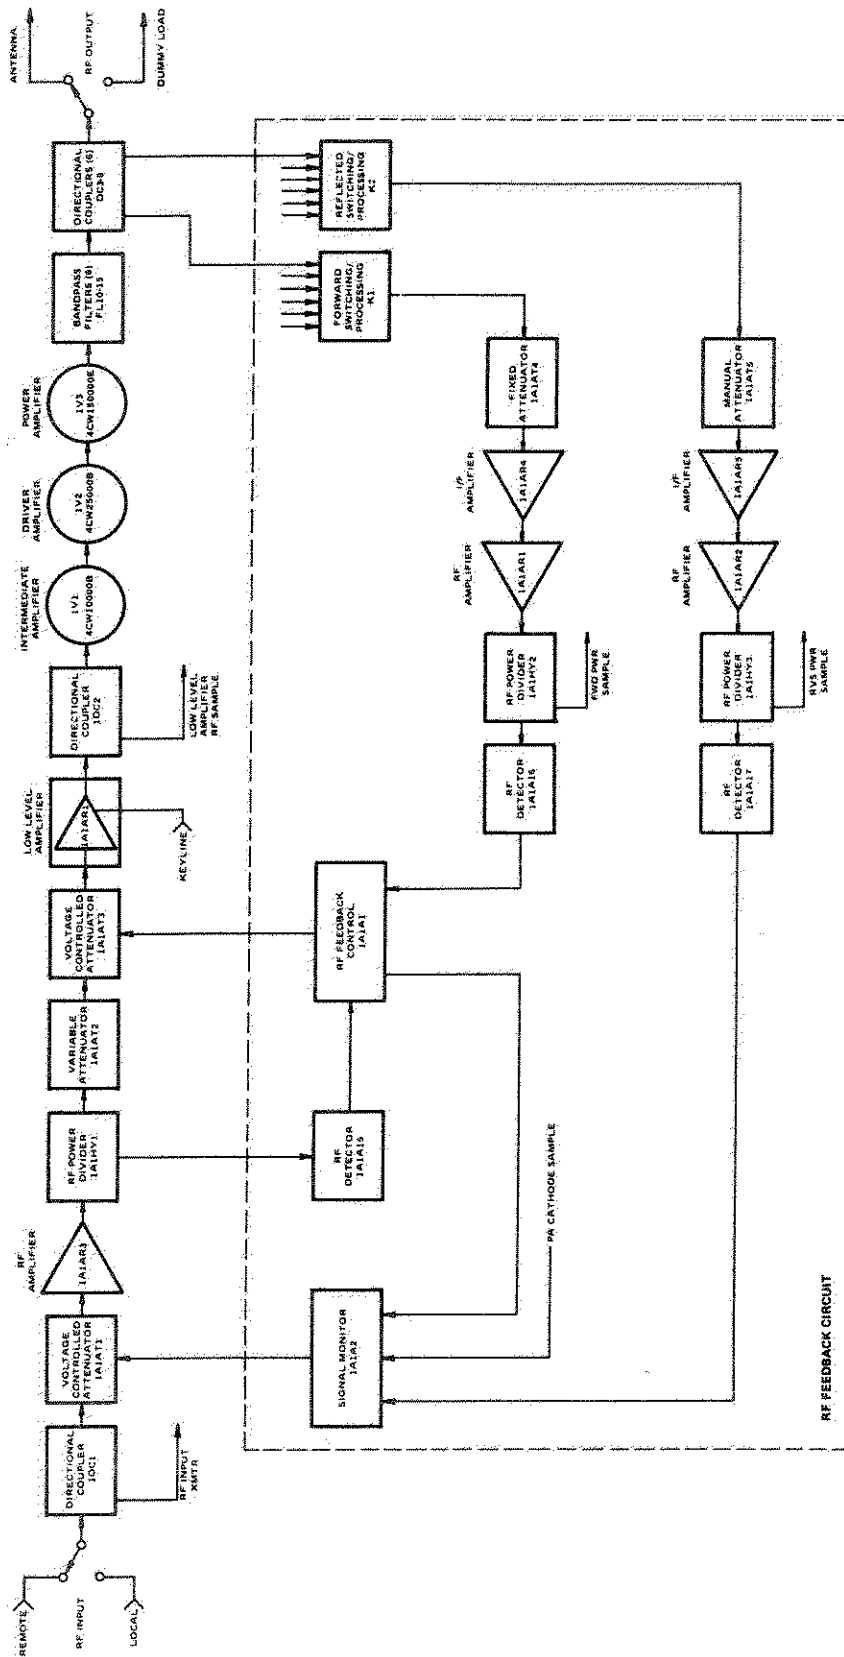
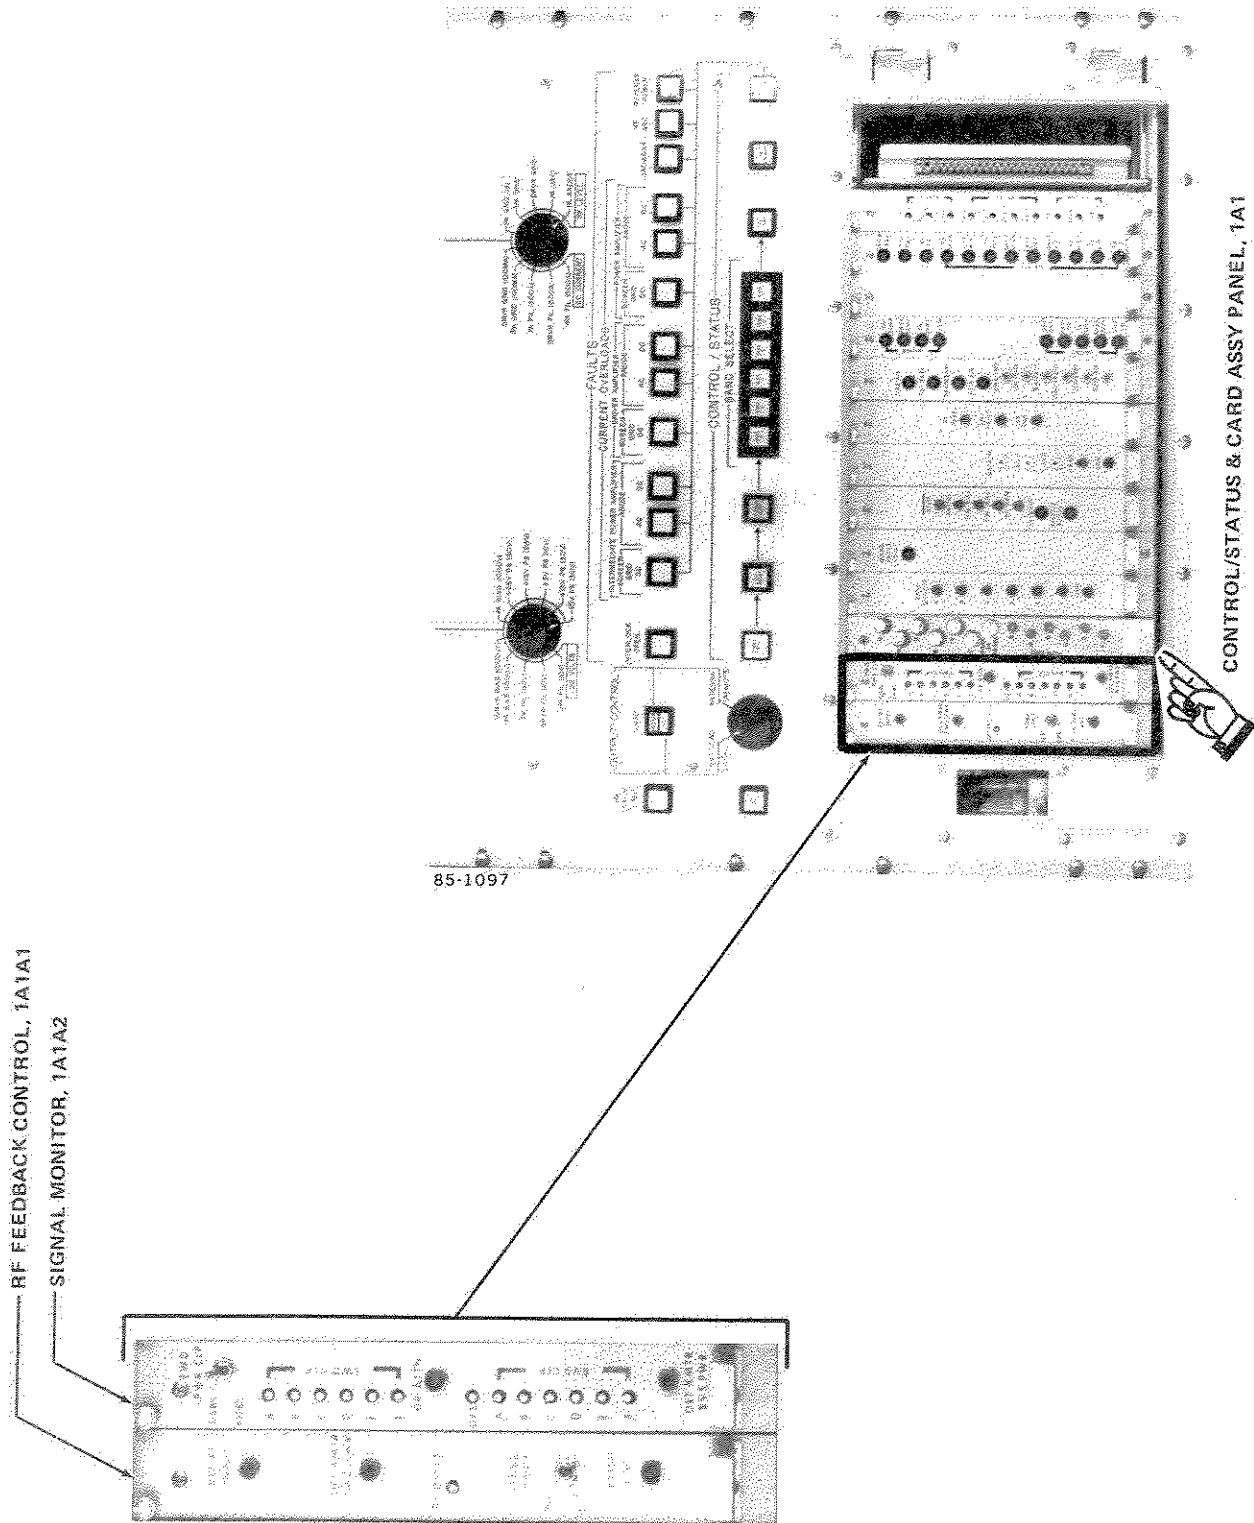

Figure 5-3. RF Signal Path and Feedback
Figure 5-4. RF Feedback and Signal Monitor Cards
Preamplifier circuitry consists of the amplitude correction circuit and the amplitude feedback/constant gain circuit. Figure 5-3 shows the transmitter RF path, including feedback origin and routing. Figure 5-4 shows RF Feedback Control 1A1A1 and Signal Monitor 1A1A2 circuit cards and their locations in the CONTROL/STATUS panel. RF input signals to the transmitter come from local or remote sources. A local signal is inserted at the RF INPUT SIGNAL SOURCE jack 1A25W5J1 on the RF SIGNAL MONITORS panel. A remote signal from the TXG transmit beamformer is applied to connector 1J1 on top of cabinet 1. RF INPUT SELECTOR switch 1A25S2 controls relay 1K5, which routes either a local or remote RF signal to the preamplifier input. Directional Coupler 1DC1 monitors the RF input signal and provides a sample at the RF INPUT XMTR jack 1A25W4J1 on the RF SIGNAL MONITORS panel.
5-3.2 Amplitude Correction Circuitry. The output of Directional Coupler 1DC1 is routed to 1A1AT1, a voltage-controlled attenuator (Figure 5-3). The output of 1A1AT1 varies from 0.0 dB to 30.0 dB and is controlled by the DR ATTN control signal from Signal Monitor Card 1A1A2, which sets the clamping action. The signal monitor card performs an RF drive-limiting function on the selected output frequency band. Resistors 1A1A2R7 through 1A1A2R12 adjust the forward power clamp level of each band. Forward power clamps for Bands A through E are set at 110 kW output power. Band F is set at $V^{(1)}$ 85 kW or $V^{(2)}$ 110 kW. The OFS adjustment pot 1A1A2R52 is adjusted at mid-Band C (10.54 MHz) to obtain +20 dBm output level at 1A1HY1. The DR ATTN signal, which can be monitored at 1A1A2-TP1, sets a power-level threshold that is a protective function to limit drive to the transmitter. FWD PWR CLP switch 1A1A2S1, on the signal monitor card, allows selection of either ENBL or DSBL positions. Under normal operation, the switch is positioned to ENBL. During maintenance, DSBL can be selected to disable the forward power clamp circuit.
The T-1524/FPS118(V) and T-1524A/FPS118(V) Radar Transmitter uses an ENI solid-state broadband amplifier for low-level amplification. Figure 5-3 shows its location in the RF chain of the transmitter. Input impedance is 50 ohms. RF input comes from voltage-controlled attenuator 1A1AT3. The broadband amplifier has a flat frequency response over the operating range of the transmitter and provides a nominal gain of 55 dB. Amplifier operation can be enabled or inhibited by applying a logic level at the KEYLINE input. An RF INHIBIT (Logic 1, +5 V dc) on KEYLINE biases the amplifier off. An RF ENABLE (Logic 0, ground) allows normal operation. The POWER ON lamp is lit up when the amplifier is enabled. The 120 V ac input power can be switched on or off with the AC POWER switch on the front panel. RF output voltage is displayed on the front panel meter. The amplifier output is routed through Directional Coupler 1DC2, and an RF sample from 1DC2 goes to RF OUTPUT LL AMPL jack 1A25W3J1.
5-9.2 Local Power Samples. Directional coupler forward and reverse power samples are used by the local monitor and feedback circuit. Figure 5-3 shows monitor and feedback paths. Outputs of directional couplers 1DC3, 1DC4, and 1DC8 at port one, and 1DC5, 1DC6, and 1DC7 at port two are routed to forward power sample relay 1A1K1. The desired input to relay 1A1K1 is selected in the TCMG or by depressing the BAND SELECT push-button switch on CONTROL/STATUS panel 1A1. Forward power samples at 1A1K1 are routed to control logic as feedback signals to control power and